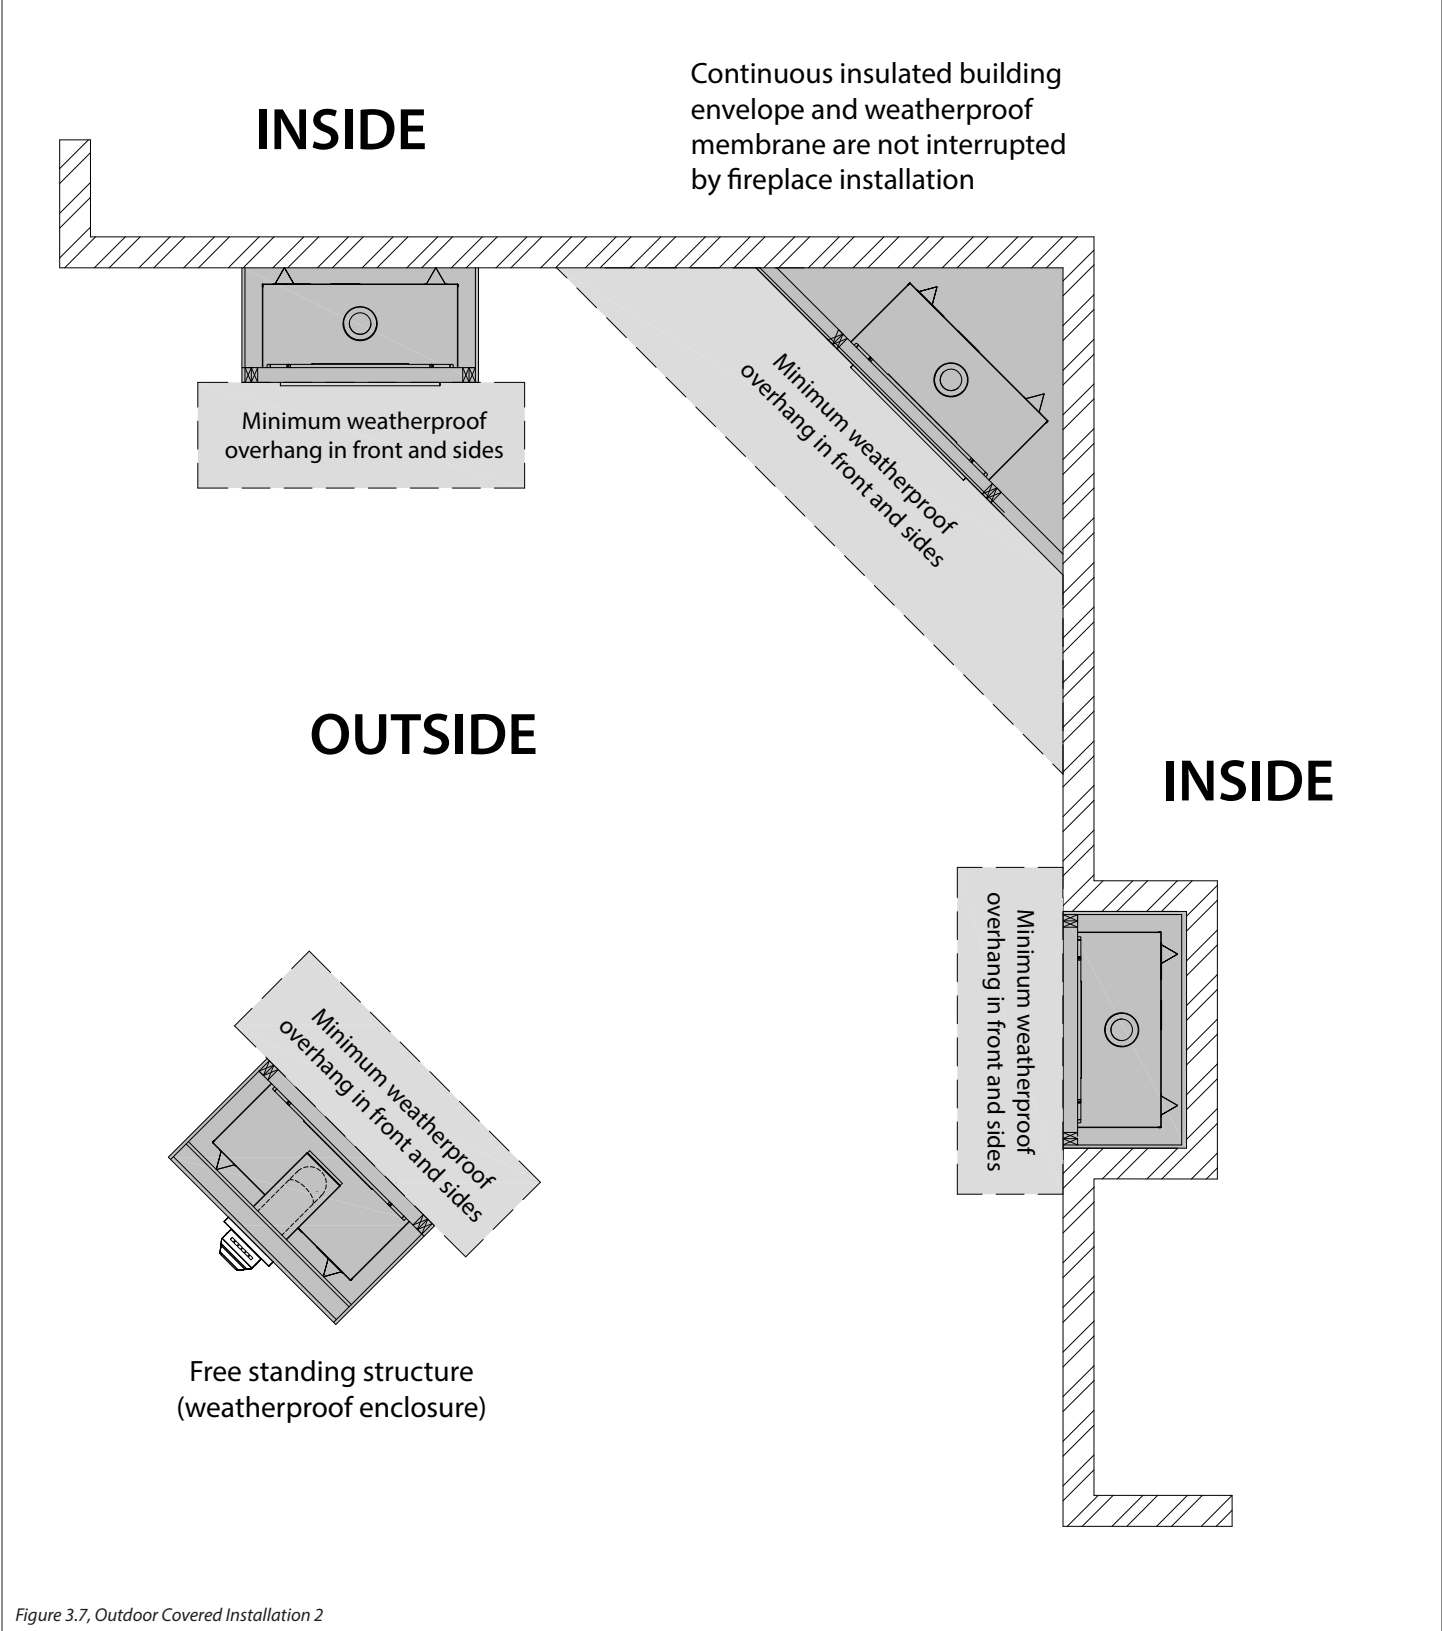

Figure 3.7, Outdoor Covered Installation 2
- The continuous insulated building envelope and weatherproof membrane are not to be interrupted by fireplace installation. See Figure 3.7 on the following page. Your fireplace may look different than the one shown.